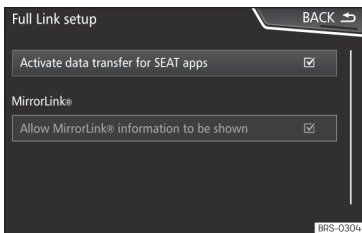

Fig. 136 Full Link Setup
- In the main menu for the Full Link settings, select **Activate data transfer for SEAT apps** >>> Fig. 136.